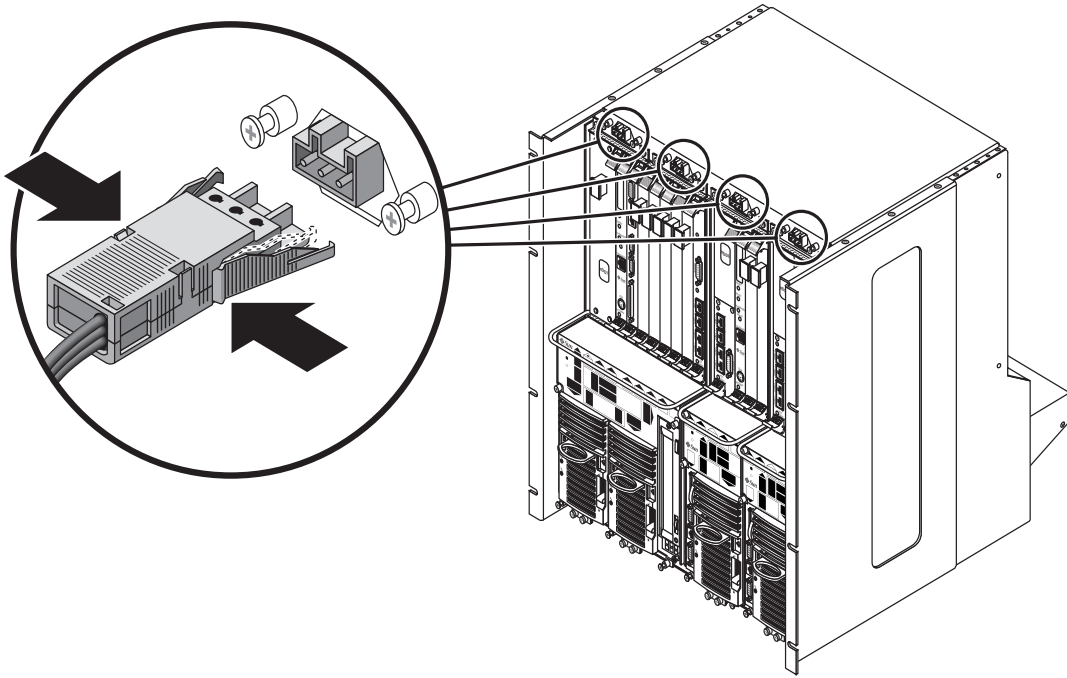

FIGURE 10-10 Unplugging the DC Input Power Cable From the DC Connector, Front-Access Model
2. **Unplug the DC input power cable from the DC connector at the front of the chassis (FIGURE 10-10).**
6. Connect the DC input power cable to the DC connectors at the front of the chassis (FIGURE 10-10).